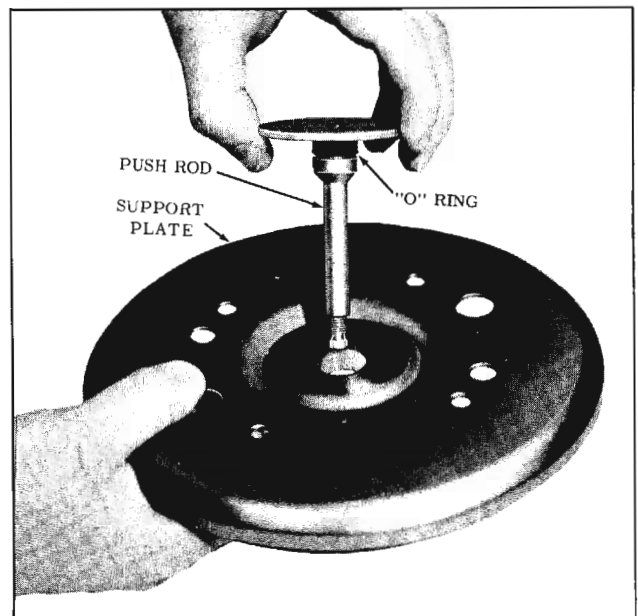

Fig. 7-22 Installing Push Rod Into Support Plate
2. Insert push rod through the support plate from the side opposite the flange. (Fig. 7-22)